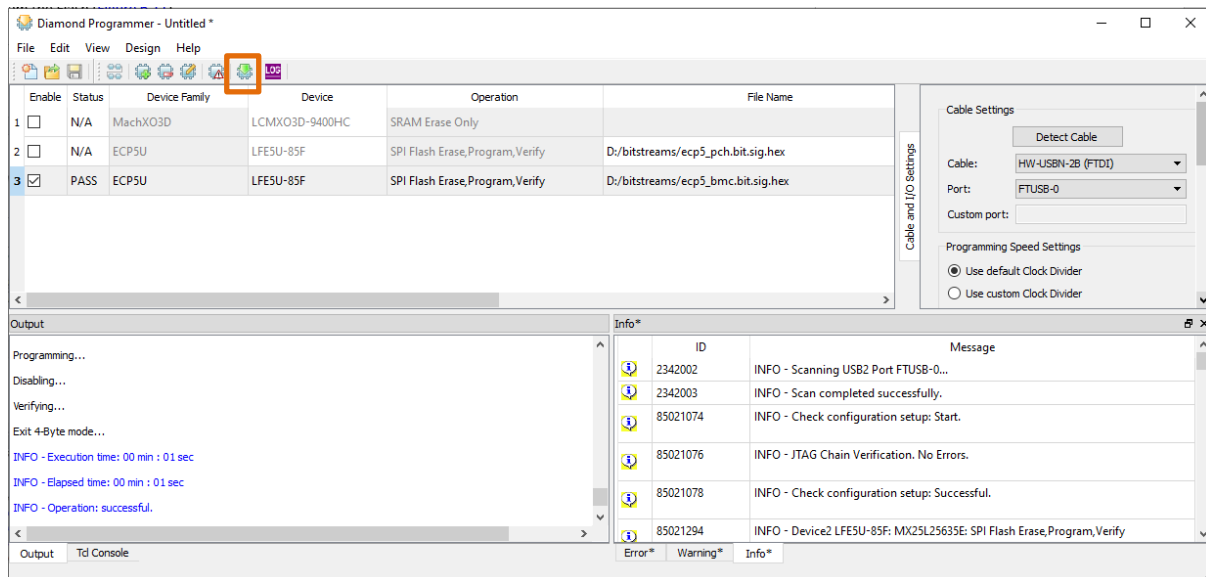

Figure 4.11. Flash Program Operation
- Program the Flash as shown in Figure 4.11.